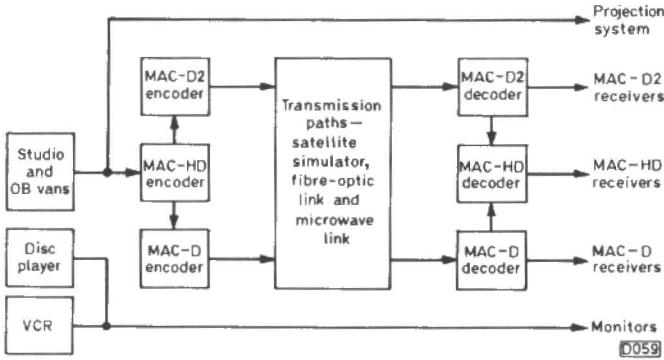

Fig. 1: The EUREKA-95 display at IBC '88.
Fig. 1 shows the general arrangement of this display. The signal originating equipment, all to the MAC-HD standard, consisted of a studio plus two outside broadcast (OB) vehicles. The first OB vehicle was equipped with a camera and a VTR while the second one was equipped with suitable VTRs, audio recorders, monitors and mixer desks, acting as a control centre whose output was fed to a MAC-HD encoder. This output was further encoded into both MAC-D and MAC-D2 signals which were sent over various transmission links including a simulated satellite TV path, 10km of 140Mb/sec optical fibre and a microwave distribution link. The received signals were then decoded and displayed on suitable receivers — as previously outlined. In addition LaserVision video disc players and VCRs provided outputs of prerecorded material to complete the domestic scene.